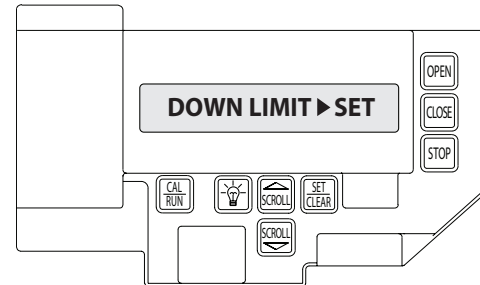

Figure 8
- 4) Press SET/CLEAR  key to switch display to "UP LIMIT>SET " or "DOWN LIMIT>SET ." **Figure 8.**
- 2) Press SCROLL  (up or down) until display reads "UP LIMIT>SET " or "DOWN LIMIT>SET ." **Figure 8.**